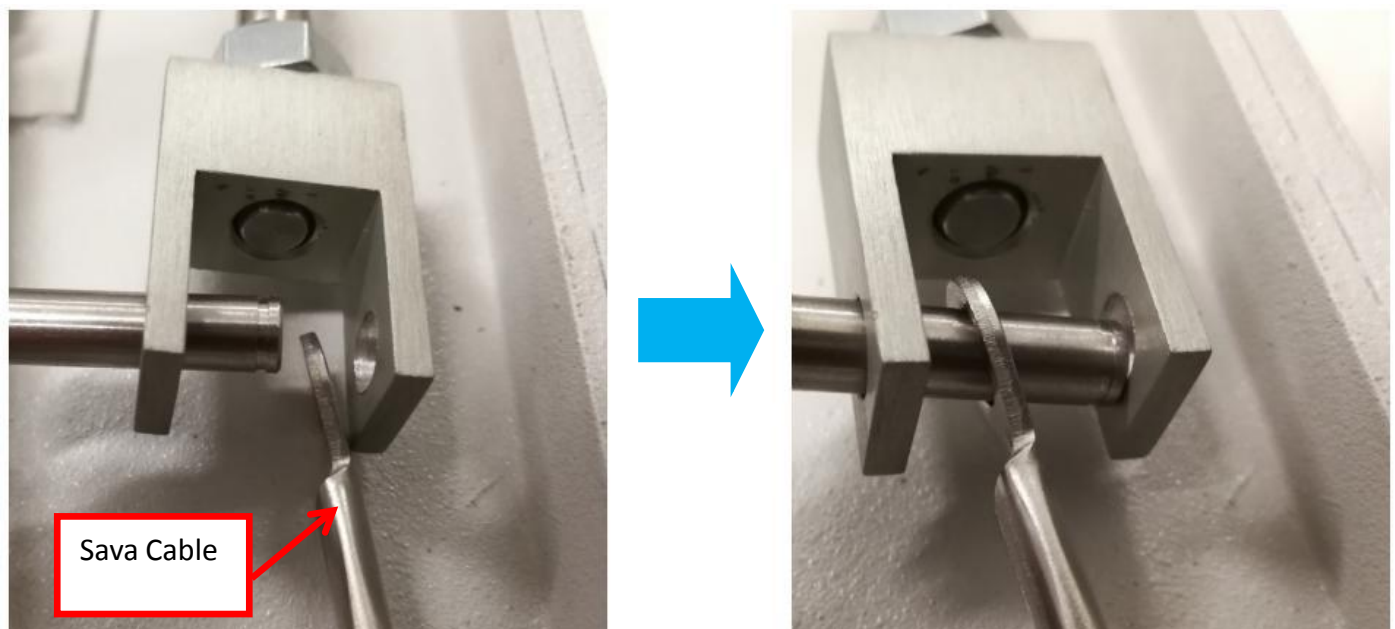

Figure 20
24. Gently slot Sava cable into dowel pin where attach with Front Extension Block as Figure 20